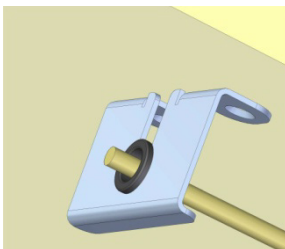

Figure 3: Cable Exit Bracket Showing the Plastic Friction Bush in Place
5. Slide the plastic friction bush around the cable and press it into the opening in the cable exit bracket (see Figure 3).